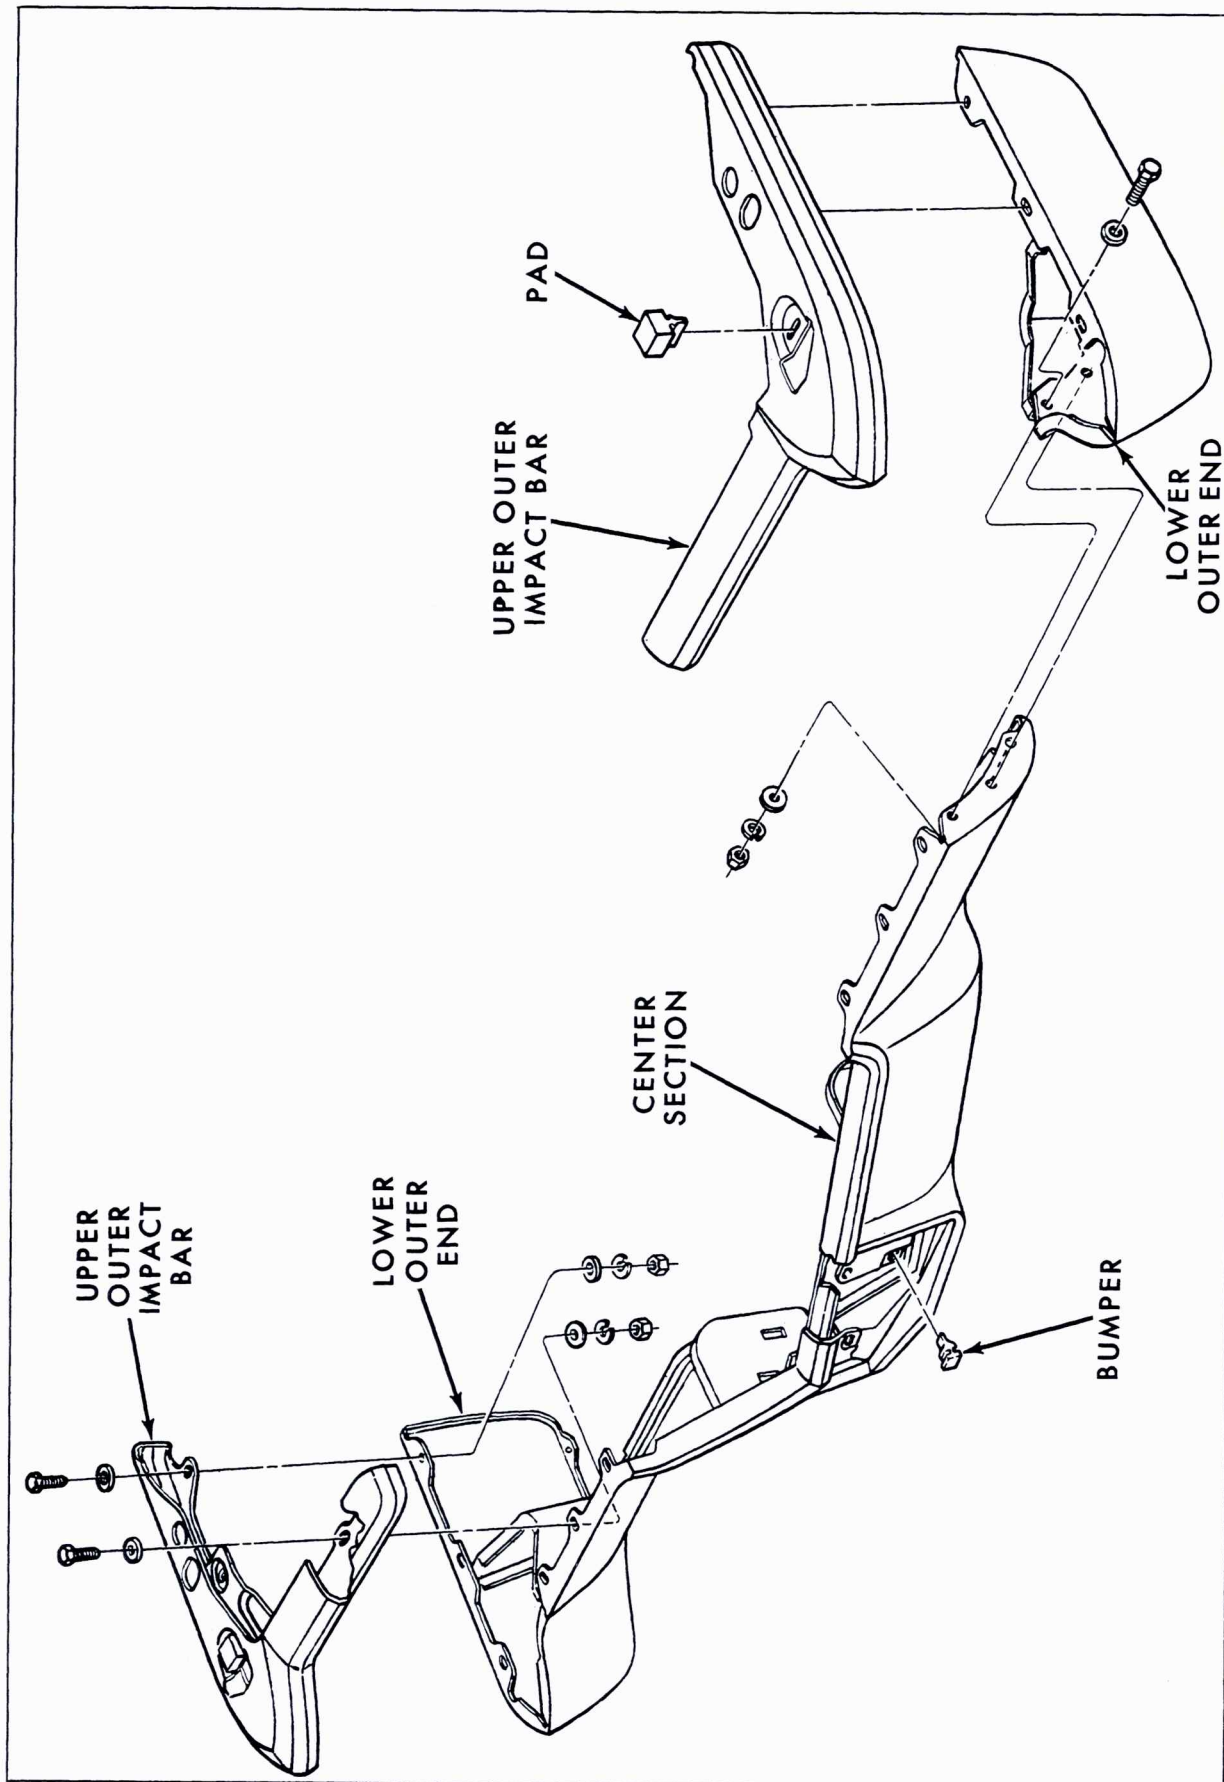

Fig. 14-2 Front Bumper Disassembled
a. Removal (Fig. 14-2)
b. Installation (Fig. 14-2)
a. Disassembly (Fig. 14-2)
b. Assembly (Fig. 14-2)